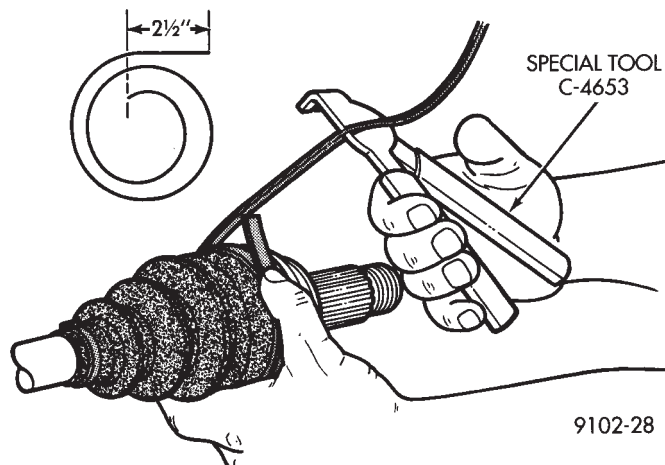

Fig. 2 Measure & Cut Binding Strap
(4) Wrap binding strap around boot **twice**, PLUS 63 mm (2-1/2 inches) (Fig. 2).